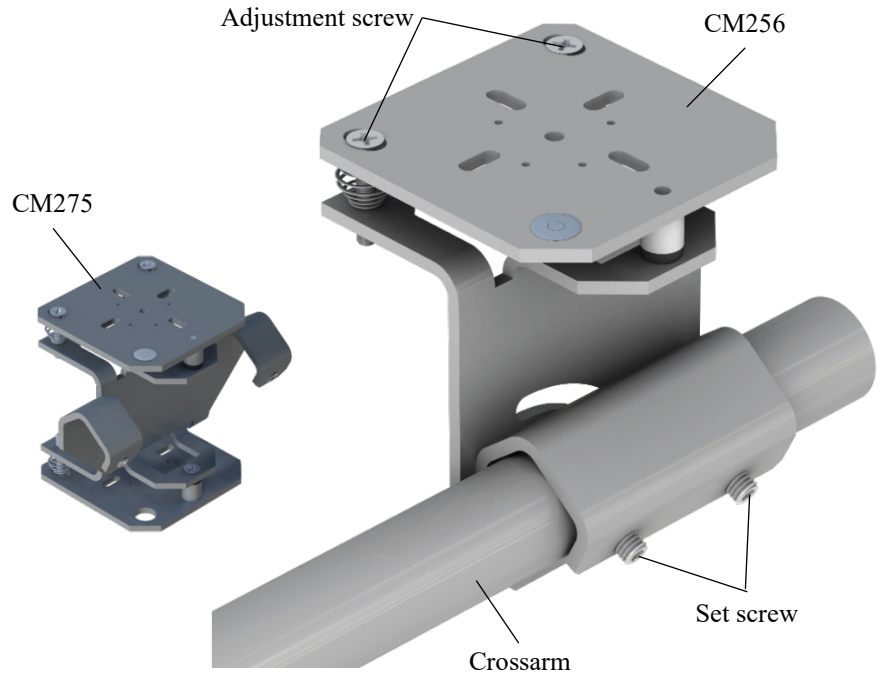

FIGURE 6-4. CM256 (CM275 inset)
- The CM256 and CM275 bracket (FIGURE 6-4) use two set screws to secure the crossarm or the pole in the channel at the base of the bracket. For pyranometers mounted horizontally, ensure the mounting bracket is horizontal in two dimensions. For pyranometers to be mounted at an angle with the CM255 or CM256, set the mounting bracket angle to the desired angle prior to tightening the mounting hardware.